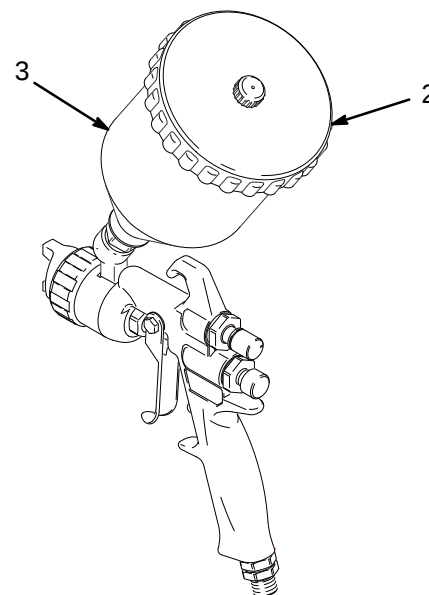

Fig. 2
2. Screw the cup hand-tight onto the gun. See Fig. 2.
3. Remove the cup lid (2) and fill the cup with fluid.
4. Tighten the lid (2) onto the cup (3).